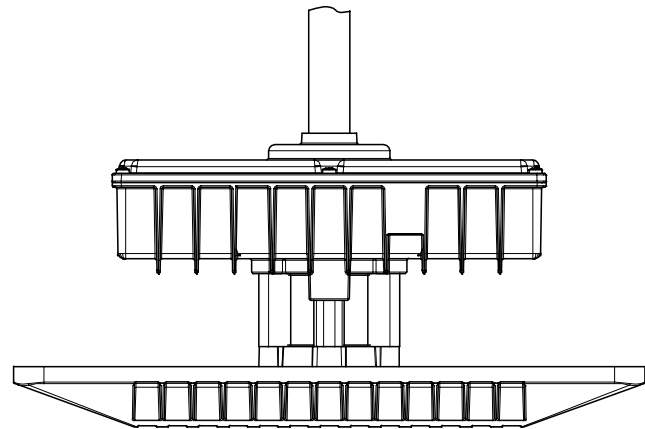

Figure 2
3. Make wire connection with supplied wire nuts per "Electrical Connections". Replace and secure the Driver Box Cover with removed Screws A (6). See Figure 2.